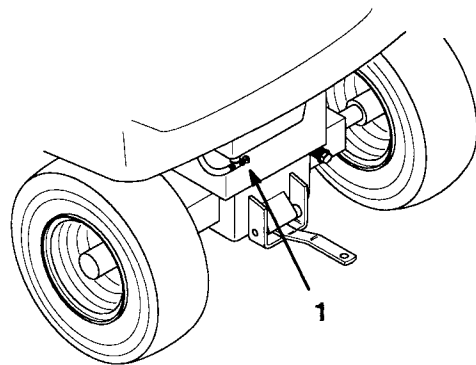

Figure 36
2. Close the fuel shut-off valve at the fuel tank (Fig. 36 & 37).
7. Open the fuel shut-off valve at the fuel tank (Fig. 36 & 37).